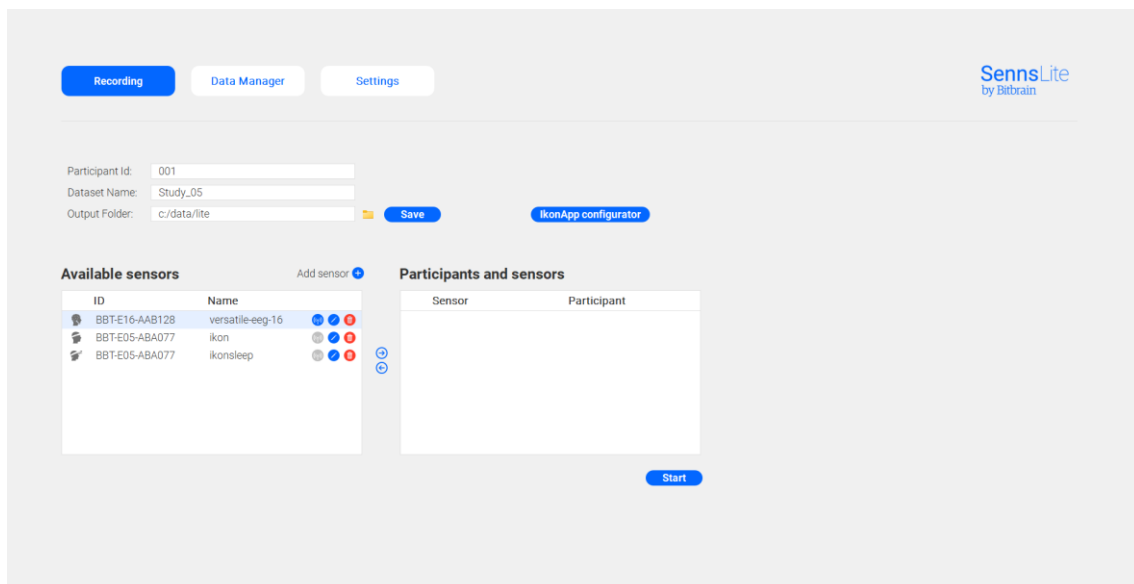

Figure 56. Ikon App Configurator button appears blue after the parameters are set
- Once everything has been set correctly, the Ikon App button in the Recording module will be shown in blue, as seen in Figure 56.